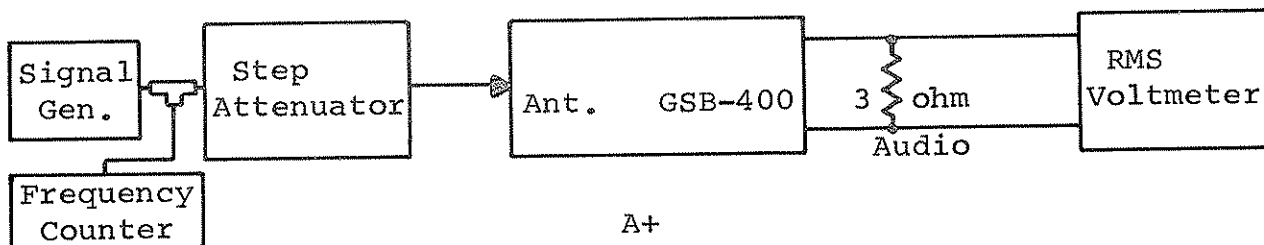

Figure 3
- (1) Follow steps 1 through 4 of Paragraph D-1-a.
- (2) Connect test equipment, as shown in Figure 3.